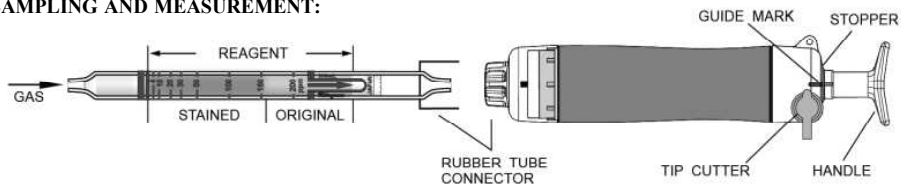

Fig.1
- ① Break both ends of detector tube.
- ② Insert the detector tube into the aspirating pump securely as shown in Fig.1. (Arrow mark shall point to the pump.)
- ③ Align the guide marks on the shaft and stopper of the aspirating pump.
- ④ Pull the pump handle at a full stroke until it locks and wait for 2 minutes or until the completion of sampling is confirmed with the flow indicator of the pump. (See descriptions about the flow indicator in the instruction manual of the pump.)
- ⑤ Push back the handle without removing the detector tube from the rubber tube connector so that air in the pump will be discharged perfectly. Then repeat the step ③~④ twice more.
- ⑥ On completion of sampling, read the scale at the maximum point of the stained layer.
- ⑦ When the concentration is over the scale range, 1 pump stroke can be used to determine concentrations of 20 - 800 ppm.